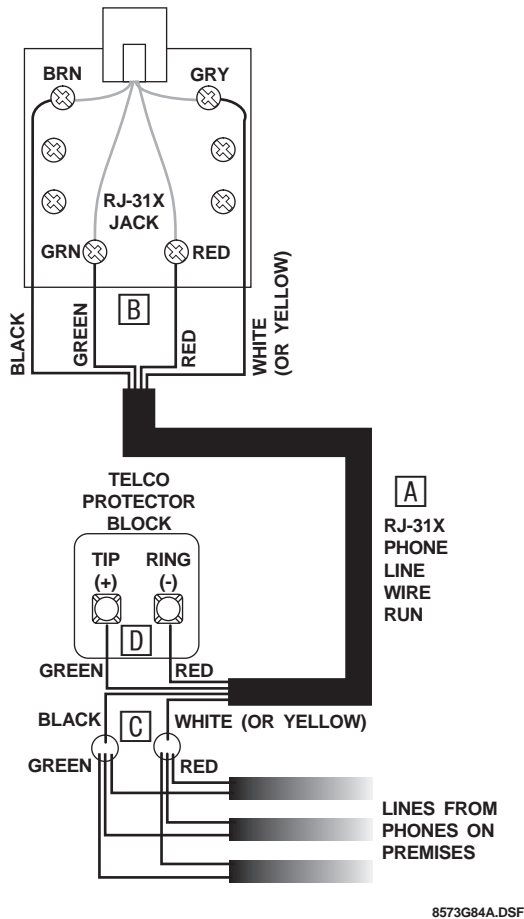

Figure 34. Installing an RJ-31X Phone Jack
1. Run a 4-conductor cable from the TELCO protector block to the jack location (see **A** in Figure 34).
2. Connect one end of the cable to the jack (see **B** in Figure 34).
3. At the TELCO protector block, remove the premises phone lines (lines from phone jacks on premises) from the block and splice them to the black and white (or yellow) wires of the 4-conductor cable (see **C** in Figure 34).
4. Connect the green and red wires from the 4-conductor cable to the TIP (+) and RING (-) posts on the block (see **D** in Figure 34).